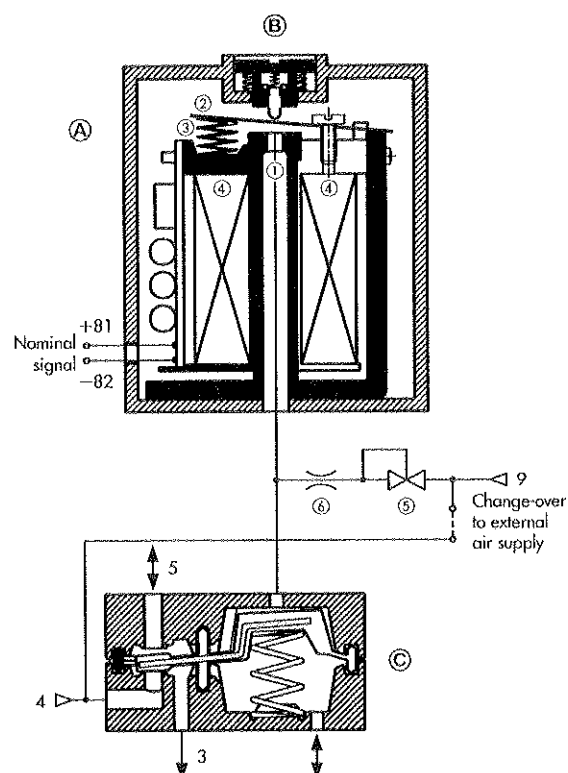

Fig. 16 · Solenoid valve with diaphragm element (K_{vs} value 0.16)
The solenoid valves consist of an E/P binary converter (A) with manual override (B) (optionally) and a single-actuated booster valve (C) with return spring (Fig. 16).